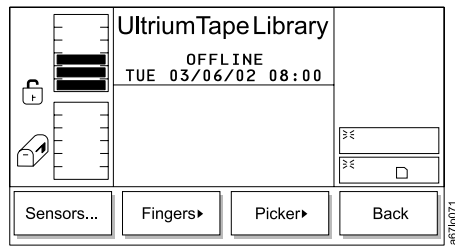

Figure 308. Diags Submenu
4. Press the button below the **Diags** softkey. The Diags Submenu displays (see Figure 308).